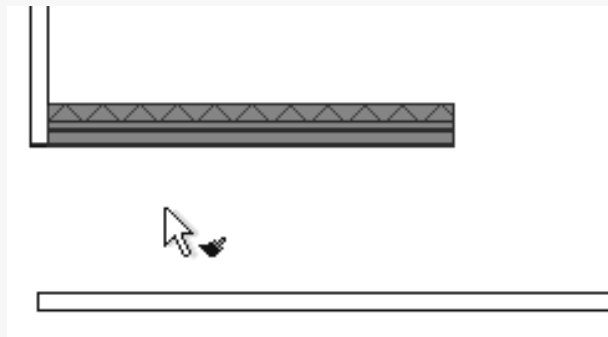

Figure 7–25
2. Select the source element that you want all of the others to match. The paintbrush changes to look as if it has been dipped in black paint, as shown in Figure 7–25.